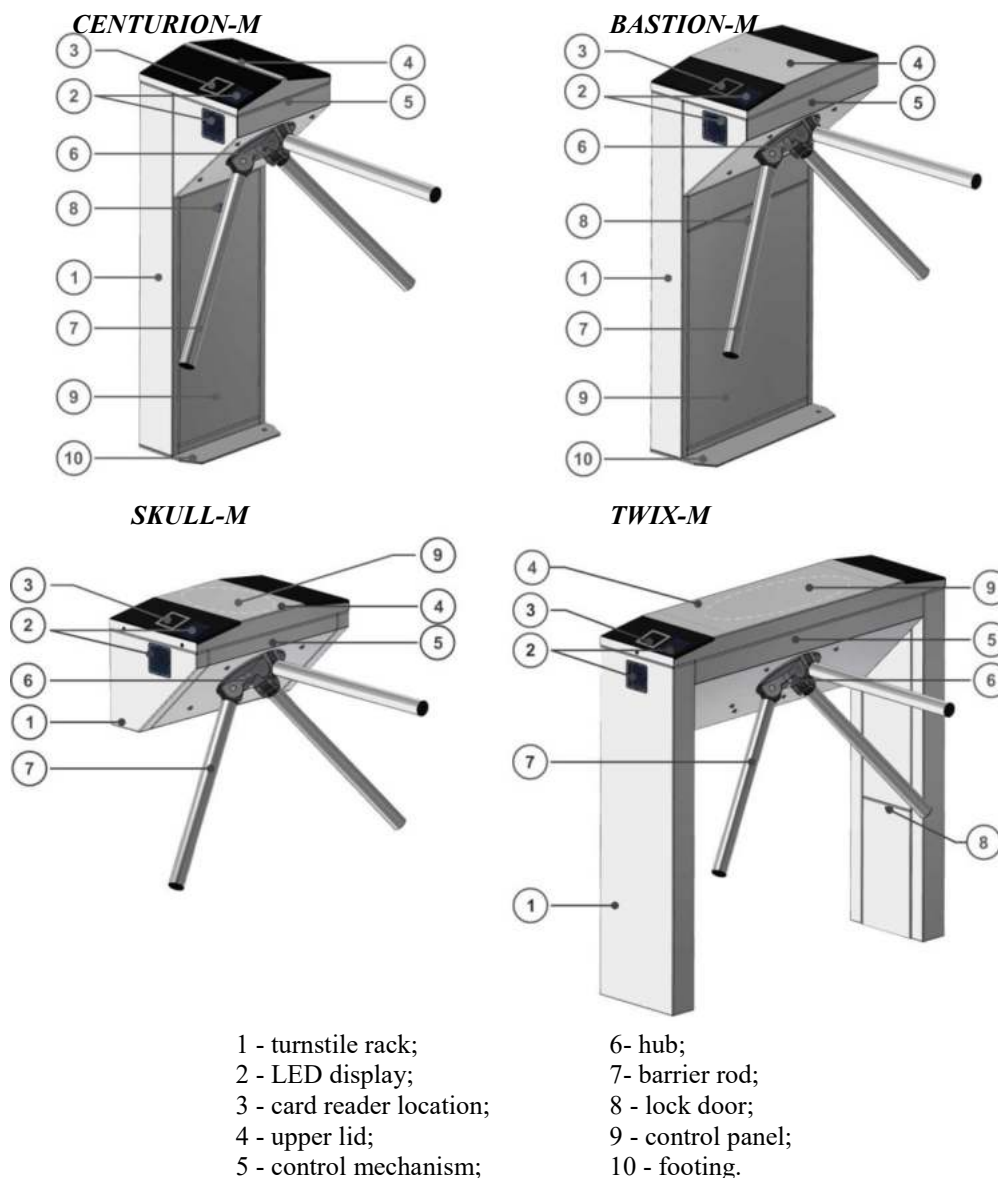
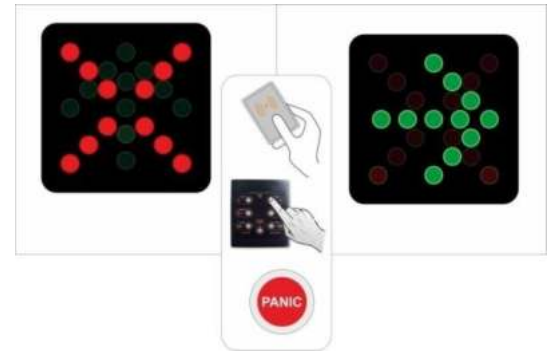

Fig. 1 – Turnstile general appearance
Fig. 4 - Turnstile status LED display
1.3.1 The servo-operated waist-high turnstile design consists of the following major devices and components (See Figure 1): Design, overall and installation dimensions of the turnstile are shown in Annex A.
1.4.1.1 The turnstile body is a metalware, which footing **10** (See Fig.1) is installed on an even surface by means of Redibolt anchors. The turnstile status is displayed by LED display boards **2**, built in the turnstile body. The turnstile initial state is indicated by constantly lit red LED (See Fig.4): the turnstile access is locked in both directions.
1.4.1.2 The control mechanism **5** (See Fig.1) is installed at the top of the body. The hub **6** with barrier rods **7**, securely fixed to its levers by crimping method, is installed on the control mechanism shaft. One of three barrier rods is positioned horizontally barring the turnstile access.
1.4.1.3 The plates, on which power supply unit, controllers, terminal blocks for connection to 220 V network and control panel are mounted, are fixed inside the turnstile post **1** (See Fig.1) under the removable door **8** (for the turnstiles CENTURION-M and BASTION-M) or removable lid **4** (for the turnstiles TWIX and SKULL). Controller controls the turnstile motor analyzing signals from speed and position sensors as well as provides the motor protection against overloads. Receiving control commands from peripherals (control panel, ACS etc.) the controller controls LED displays and generates feedback signals for ACS (Access Control System).